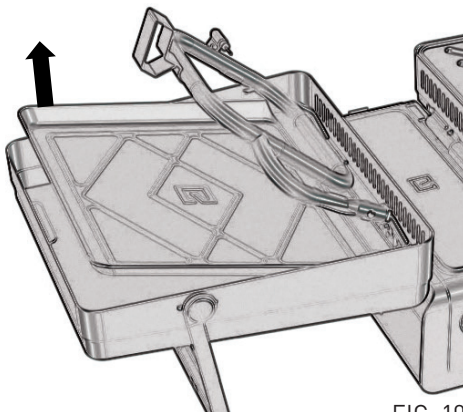

FIG. 10
2. Lift grease tray using the handles at an angle from the open area. (Fig. 10)